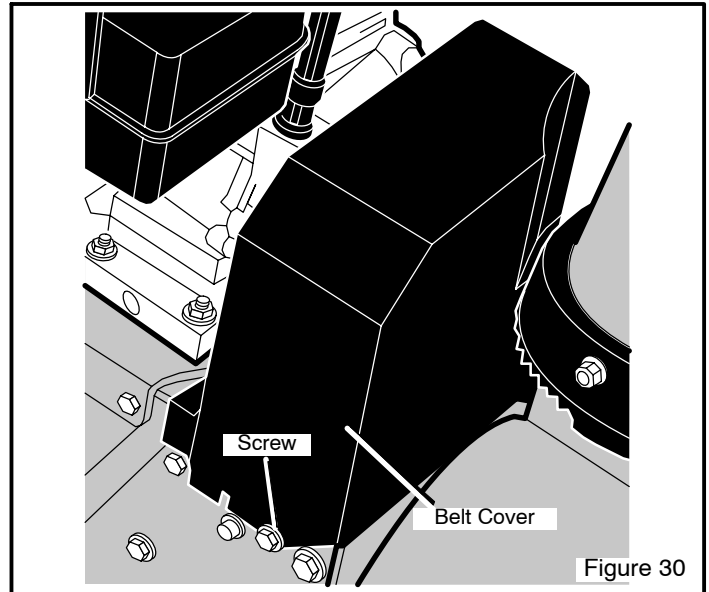

Figure 30
2. Remove **screw** from **belt cover**. Remove **belt cover** (see Figure 30).
4. Remove **screw** from **belt cover**. Remove the **belt cover** (see Figure 30).
16. Install the **belt cover**. Tighten **screw** (See Figure 30).
15. Install the **belt cover**. Tighten **screw** (see Figure 30).